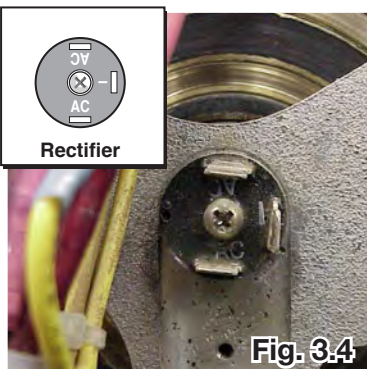

Fig. 3.4
- Disconnect wires from rectifier. Check 3-pin rectifier with ohmmeter in diode testing position. The rectifier should only conduct one way between AC and negative pin. Replace if shorted between pins or if open between pins. (See Fig. 3.4 and inset).